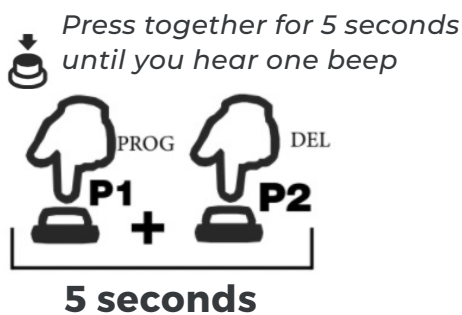

fig.11
Step 1 - In order to add handsets the unit needs to be placed into programming mode, to do this press and hold both P1 & P2 buttons for 5 seconds and you will here 1 beep and the LED will light up (**fig.11**).